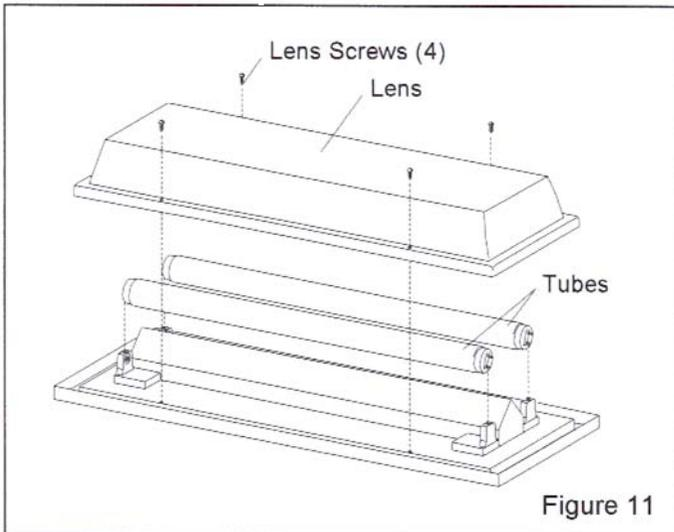

Figure 11
7.6.3.2 Flip the assembly over to access the lens screws, ref. Figure 11.